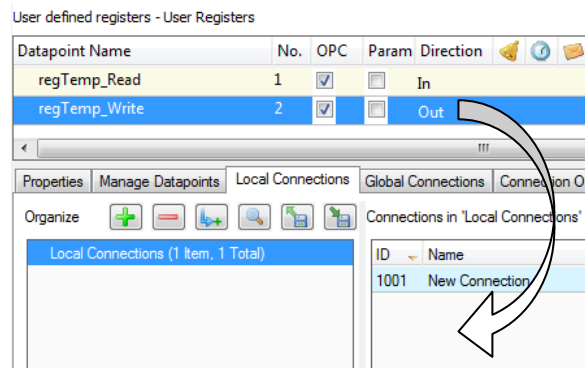

Figure 126: Create a connection with drag-and-drop
2. In the properties view below the data point list click on the **Local Connections** tab as shown in Figure 126.
3. Then simply drag a data point from the data point list and drop it onto an empty area in the connections list as shown in Figure 126.
- To add data point to that connection, drop the new data point into the empty area in the connected data points list below as shown in Figure 126.